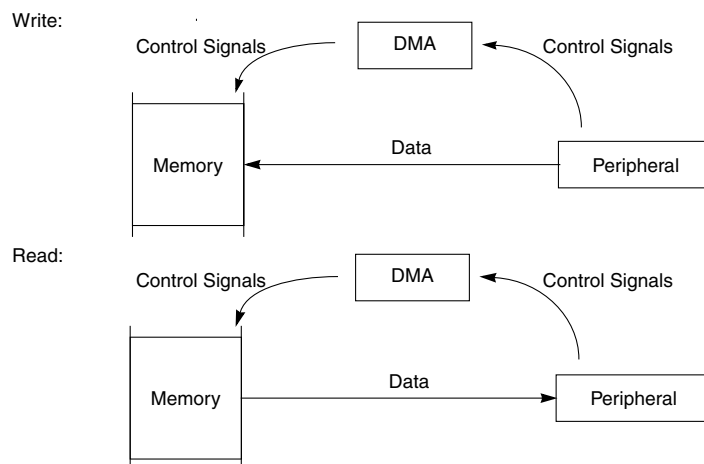

**Figure 12-4. Single-Address Transfers**
- Single-address transfers—An external device can initiate a single-address transfer by asserting  $\overline{\text{DREQ}}$ . The MCF5407 provides address and control signals for single-address transfers. The external device reads to or writes from the specified address, as Figure 12-4 shows. External logic is required.